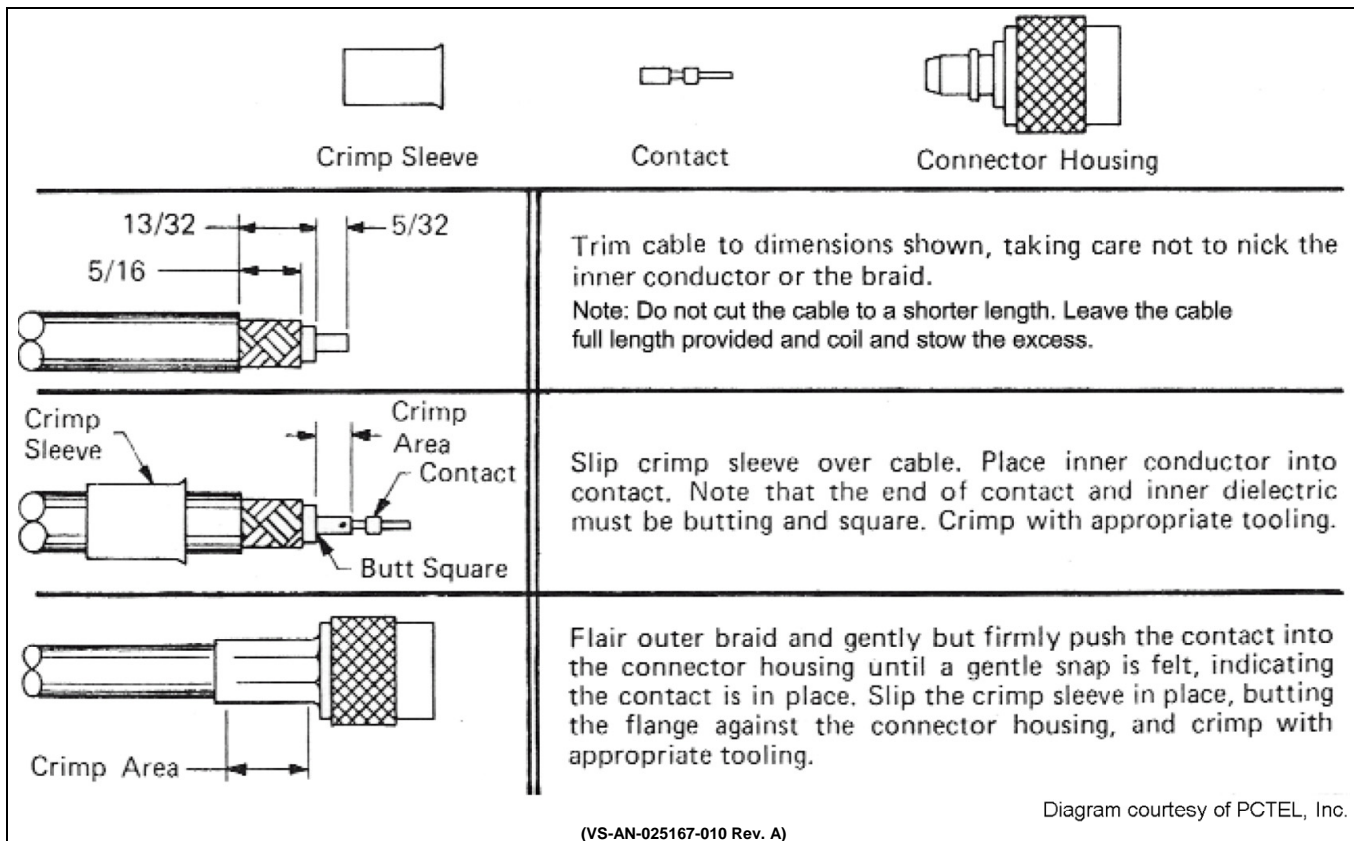

Figure 7-2: Crimping Instructions for TNC RF Connector (Actual Size; Dimensions in Inches)
4. Using an appropriate crimp tool, crimp the supplied TNC RF connector to the end of each antenna cable. See Figure 7-2 for crimping instructions.